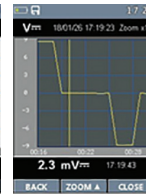

Fig 138
- In Record View Display, press the Button ◀ or ▶ key to move the cursor on the graph. Press the Button ▲ key to activate the zoom function of the graph (Fig 138), increasing resolution (symbol "Zoom Xy" where y=max zoom dimension appears at the top of the display on the right side). You can zoom X1 for at least 10 measuring points, X2 for at least 20 measuring points, X3 for at least 40 measuring points and so on for maximum of 6 zooming operations.